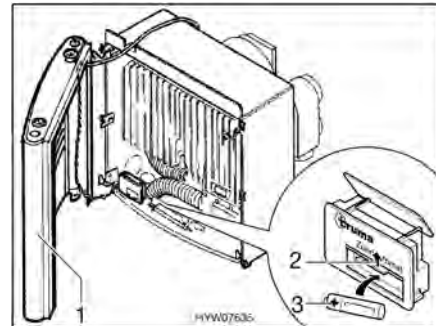

Fig. 116 Heater opened
- Turn the cover (Fig. 116,1) to the side, so that the connecting cables for the hot-air fan as well as the ignition control lamp do not need to be disconnected.
- Push battery chamber cover on the automatic ignition (Fig. 116,2) upward.
- Insert a new battery (Fig. 116,3) of the same type, correctly aligned (+/-), into the battery chamber of the automatic ignition. Only use temperature resistant (+70 °C) and leak-proof Mignon batteries.